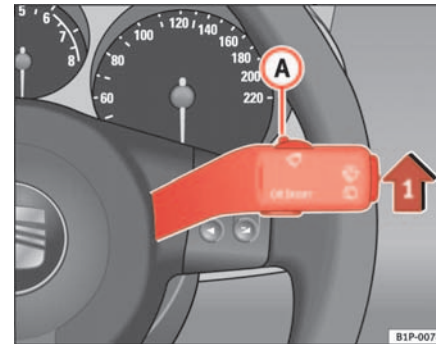

Fig. 64 Windscreen wiper lever
- Move the windscreen wiper lever into position ① ⇒ fig. 64.